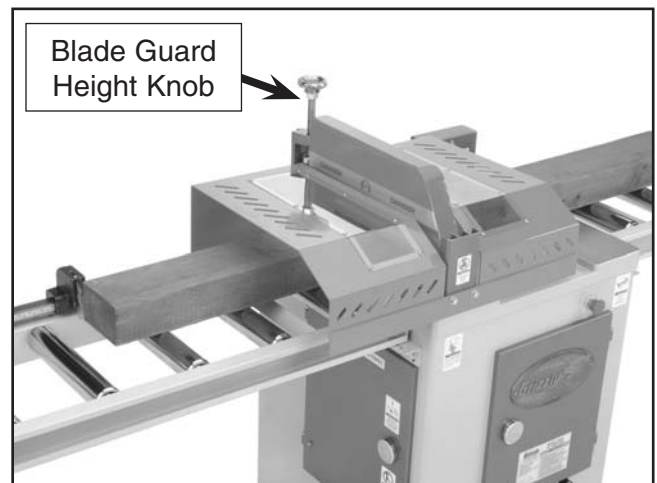

Figure 31. Workpiece prepared for cutting.
2. Set the stop block to the length of the desired cut and place the workpiece against it (**Figure 31**).